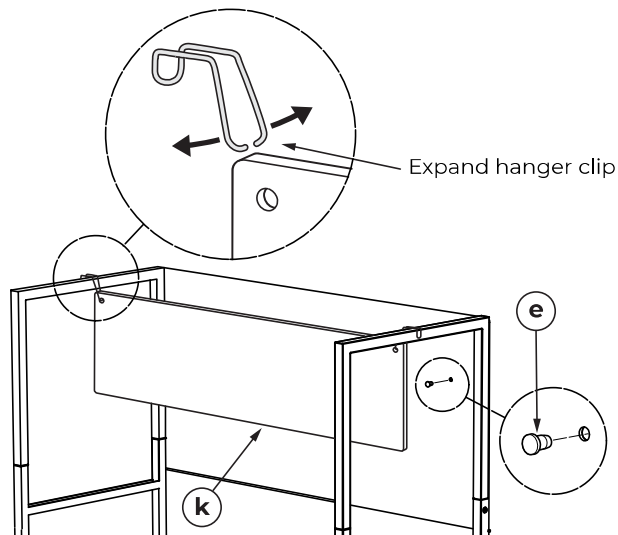

Figure 5
- To cover the screw holes in the Back Board, insert the (6) Rubber Screw Hole Covers (e) into the holes as shown in Figure 5 below.
- The hanger clips need to be attached on each side of the chalkboard. Place the Chalkboard Sign (k) on the frame. See the detail in Figure 5.